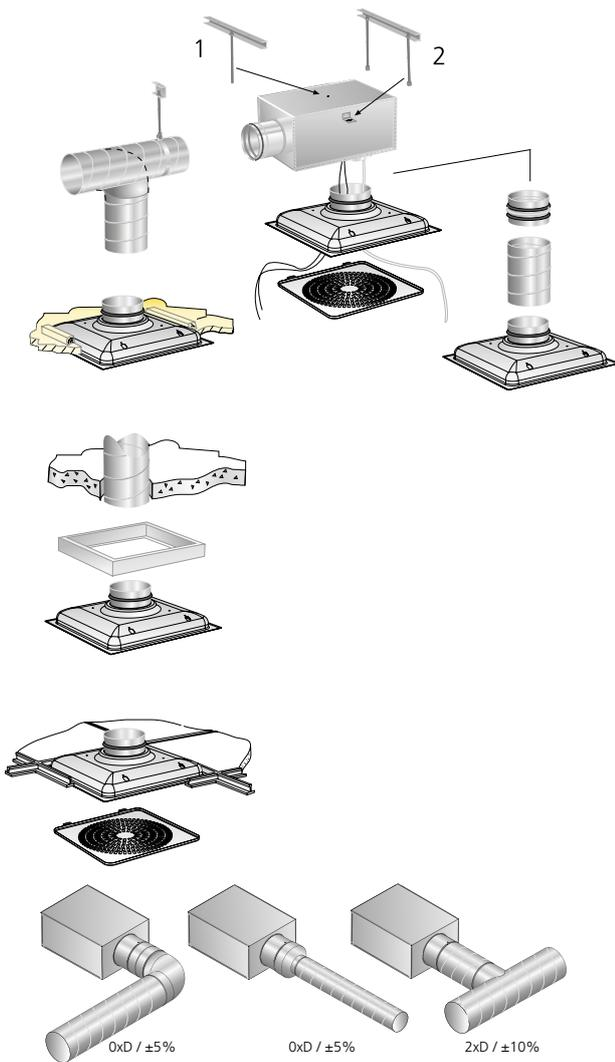

Figure 3. Installation options for the ALS commissioning box. See the REACT ALS product sheet for installation options with active commissioning box.
- The distance between the commissioning box and the air diffuser can be increased by as much as 500 mm without having to lengthen the measuring tubes and damper adjustment cords. See Figure 3.
- Measurement accuracy and straight section requirement before the commissioning box, see Figure 3.
- Figure 3 shows a bend, a change in dimension and T-piece.